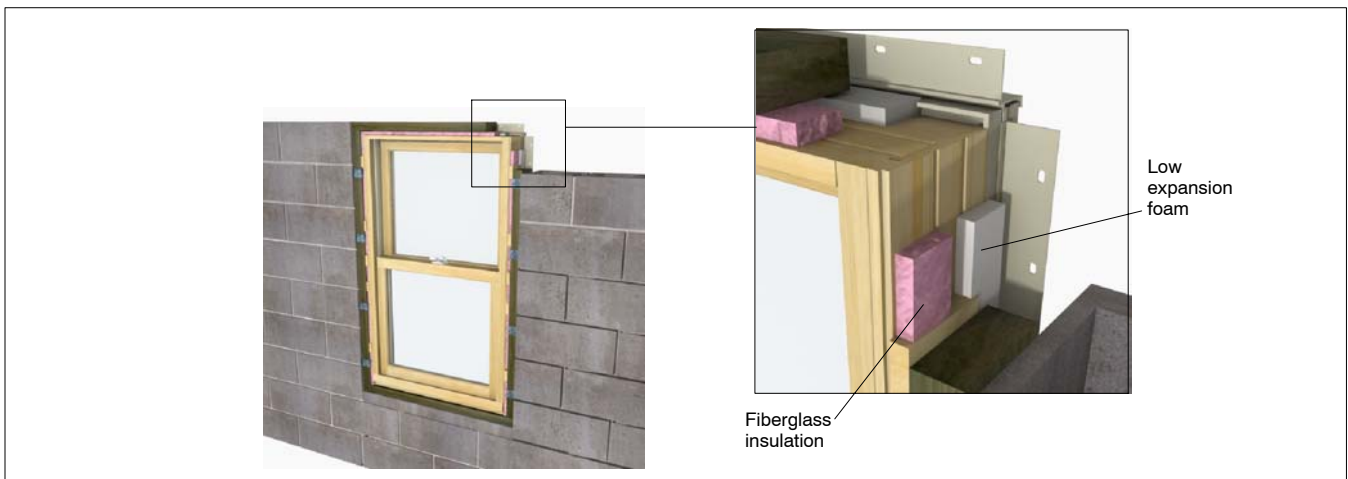

Figure 14: Insulating the rough opening
4. Apply a 1"–2" (25–51) thick bead of low expansion foam insulation on the back side of the nailing fin, brick mould casing or other trim. Do not apply too much as it is possible to bow the jambs. Now insulate loosely around the window with fiberglass insulation. See figure 14.
5. **Interior and mullion trim:** Install mullion trim after interior trim or casing is applied. On Ultimate Double Hung units, be sure to use nails and staples that are no longer than 3/4" (19). Place fasteners at least 1" (25) from the edge of interior jamb liner.